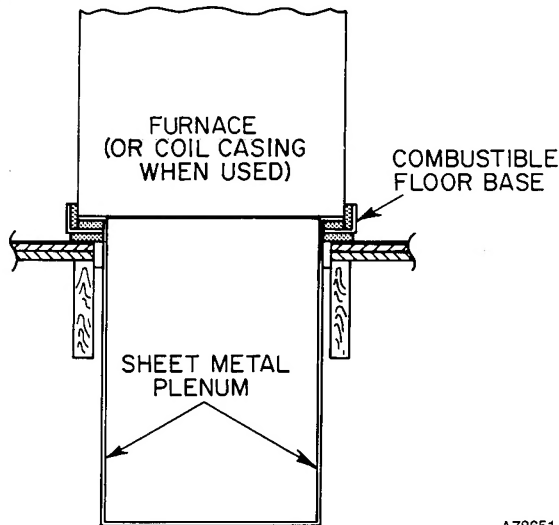

Fig. 6—Furnace, Plenum, and Base Installed on a Combustible Floor
4. When completed, combustible floor base, plenum, and furnace (or coil casing when used) should be installed as shown in Fig. 6.